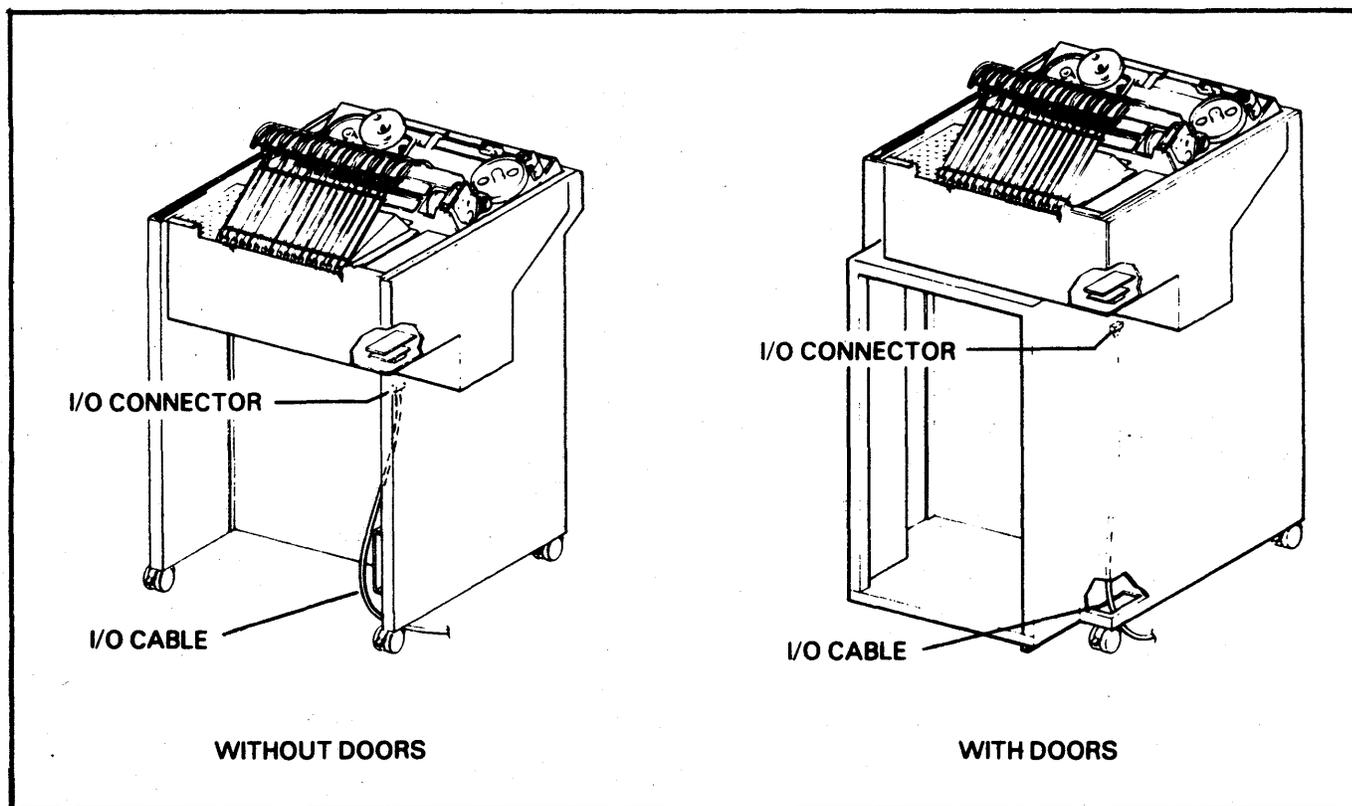

FIGURE 1-3. I/O CABLE INSTALLATION
| | FIGURE 1-3. I/O CABLE INSTALLATION | 1-3 |
9. Install the I/O cable through the cutout in the back of the printer (bottom right side). See Figure 1-3. The cable and its connector must be CSA certified or rated UL94V-1 or better. Check to be sure the bonnet latches correctly. If it doesn't, the printer may have to be leveled. Leveling is achieved by rotating the appropriate caster's adjusting nut; clockwise will raise the caster, counter-clockwise will lower the caster.